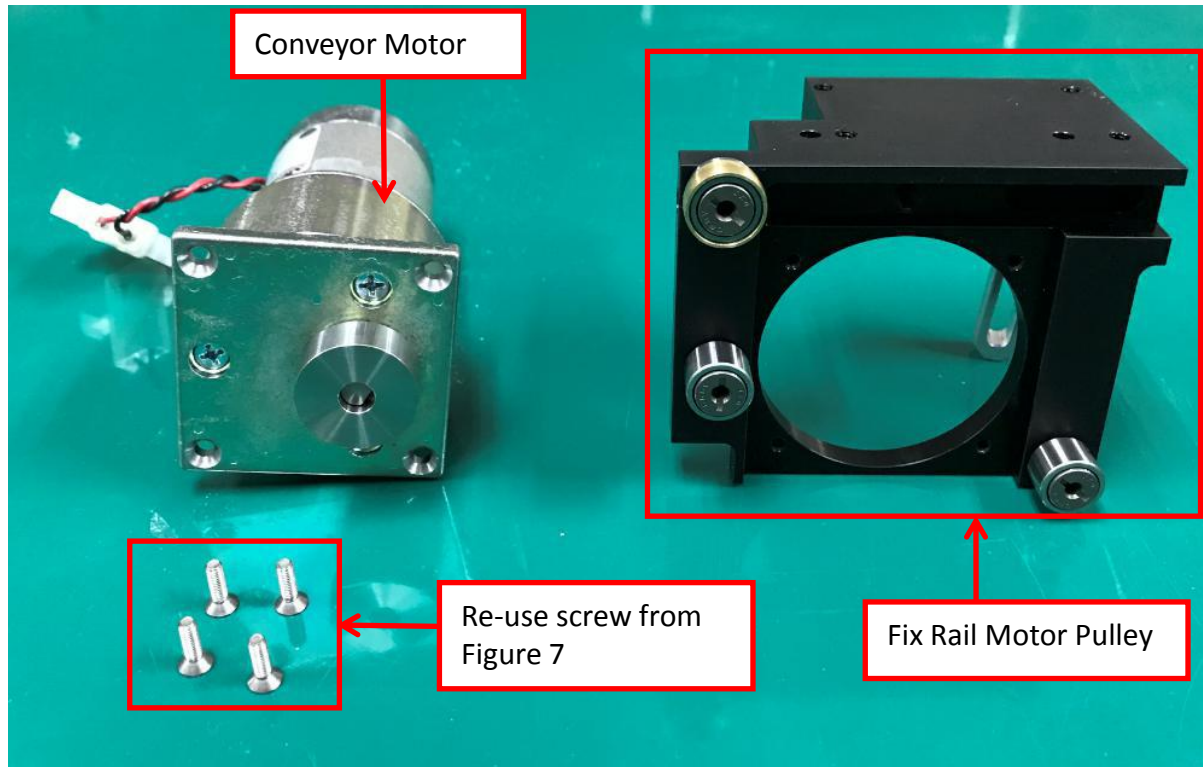

Figure 9 Conveyor Motor Assembly
2. Install Conveyor Motor to “Fix Rail Motor Pulley” as shown in Figure 9 & 10